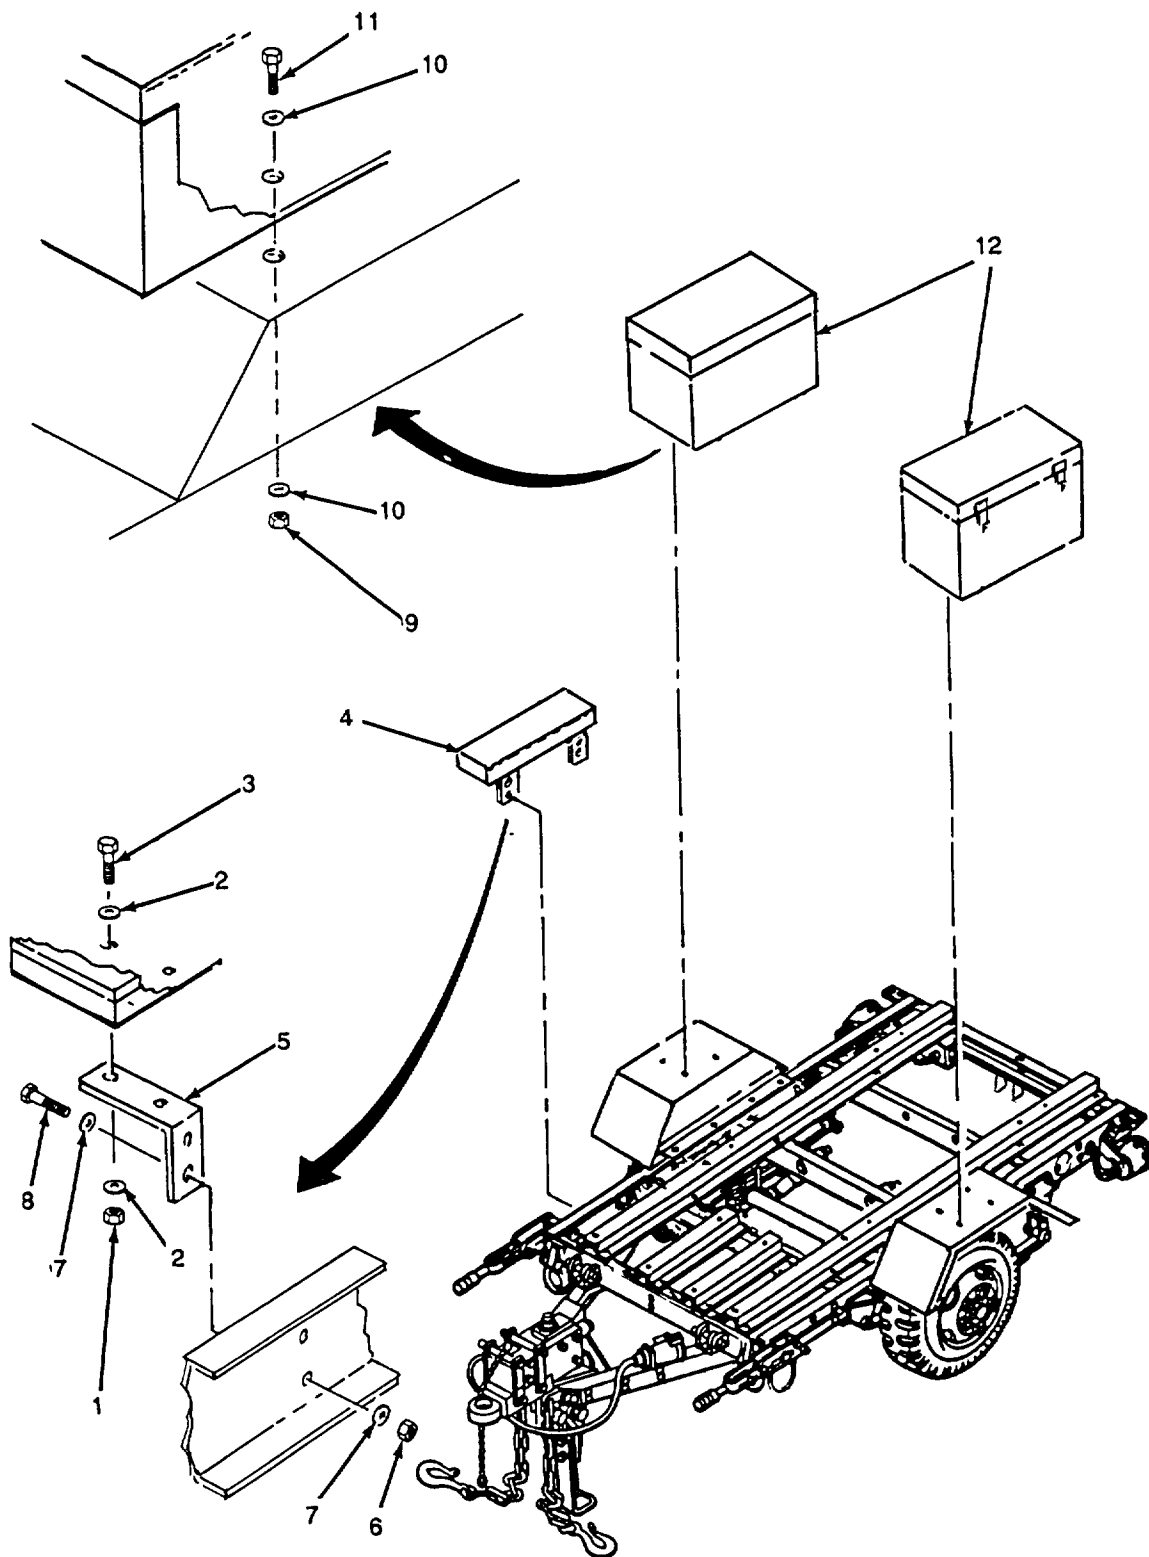

Figure 4-12. Box, Storage and Accessory.
1. Install flat washer (16), nut (15), flat washer (14), ground wire terminal lug (13), washer (12), and nut (11) onto ground terminal.
2. Install flat washer (10), ground wire terminal lug (9), lockwasher (8), and screw (7) to air conditioner.
3. Connect power cable connector (6) to air conditioner.
4. Position trailer ground wire (5) and air conditioner ground wire (4) in LO terminal slot and four cable leads (3) in corresponding terminal slots.
5. Secure four terminal retaining nuts (2) and clasp wire retainer (1).
**4-21. STORAGE AND ACCESSORY BOXES (Figure 4-12).**